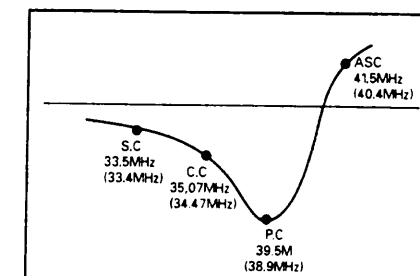

Fig 2. * () : PAL-B/G
- Adjust L203 (Video Intermediate Frequency Detection Coil) in order to minimise the picture carrier mark, as shown in fig. 2.